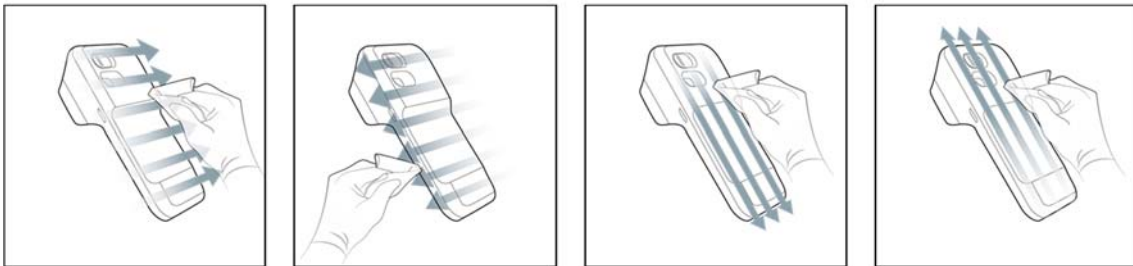

Figure 4. Wipe the meter back
5. Follow the Figure 4 to wipe the meter back.